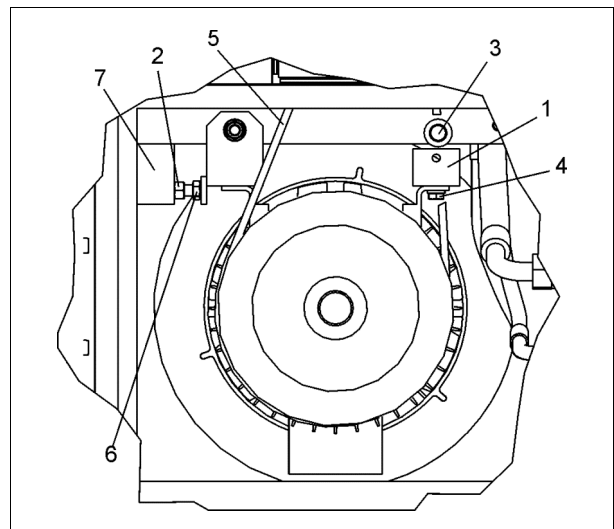

Fig. 12
Fasteners used for securing the electric motor (-1- Fig. 12) during transportation must be removed prior to commissioning.
- After the panel has been removed, support the motor by screwing the belt adjusting bolt (-6- Fig. 12) counterclockwise.
- Loosen the fastening screws (-3- and -4- Fig. 12) and remove the fasteners
- Check V-belt (-5- Fig. 12) is correctly placed in the in V-belt pulleys
- Remove transport guards (see chapter 6.4, Fig. 12)